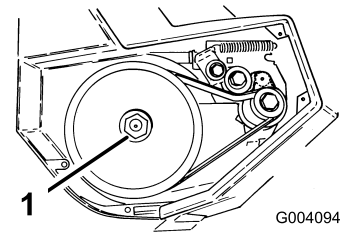

Figure 16
3. Hold the hex nut with a 7/8 inch wrench while unscrewing the rotor shaft (Figure 16).